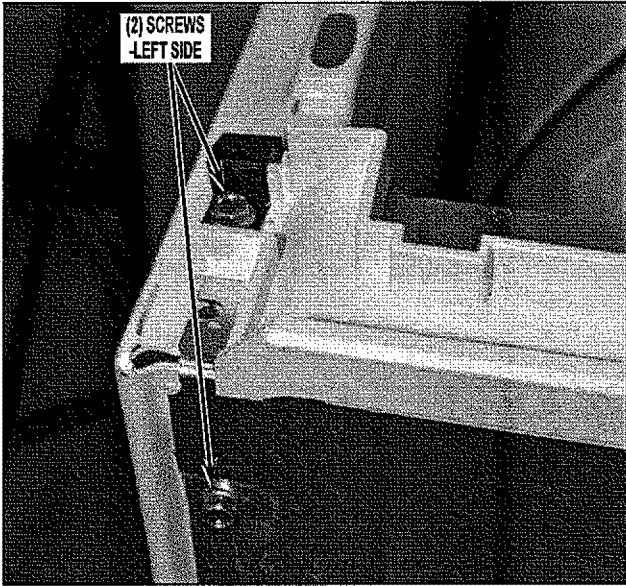

FIGURE 12A
14. Remove console mounting bracket by removing two (2) screws securing bracket to cabinet left side panels, two (2) screws from right side panel and one (1) screw from central control bracket. Slightly lift assembly and remove from dryer. See Figure 12A and 12B.